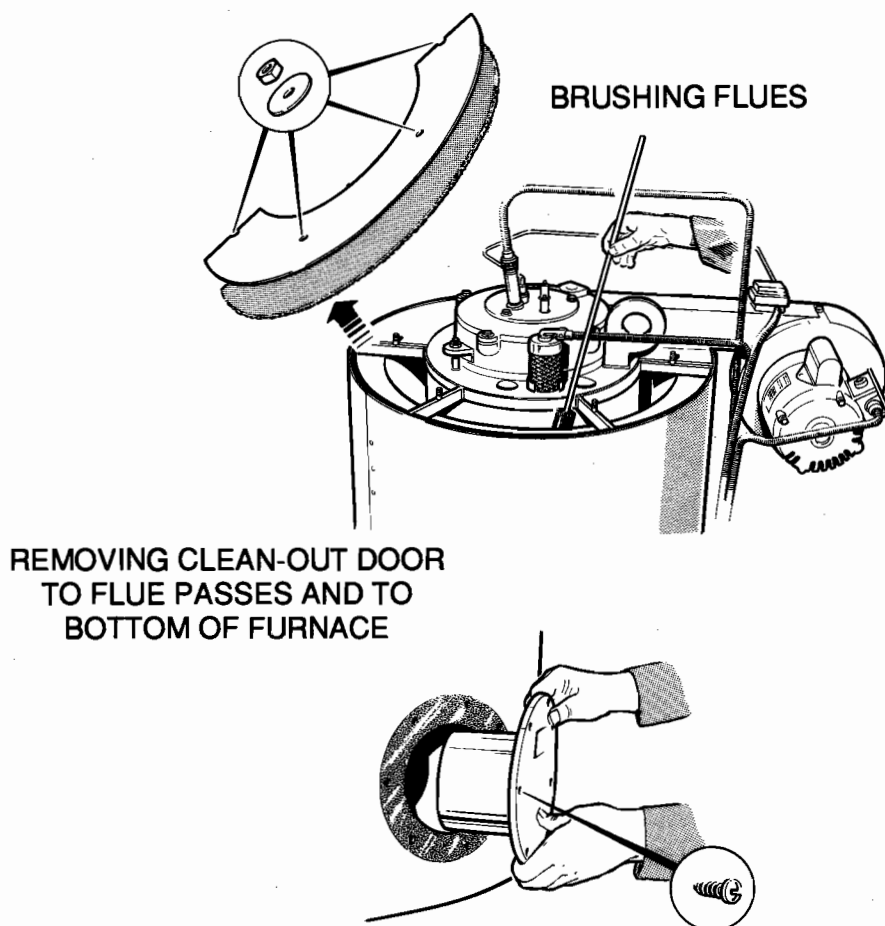

FIG. 14 FLUE CLEANING
- (1) Remove the cover plates and clean out door (Fig. 14). Clean out the flue passes. When replacing the cover plates and clean-out door, use furnace cement to ensure a tight seal, thus preventing the escape of hot gases.
- (2) Apply a small quantity of oil to the bearings of the burner motor and the feed water pump motor.
- (3) Drain and flush the feed water tank. Clean any filters in the tank, in the feed water line or in the feed water pump.
- (4) Remove and clean the water electrodes, take care not to crack the porcelain. After replacement, check the operation of the low water cut-off relay and of the feed water pump.
- (5) Remove the air gate and clean the fan.